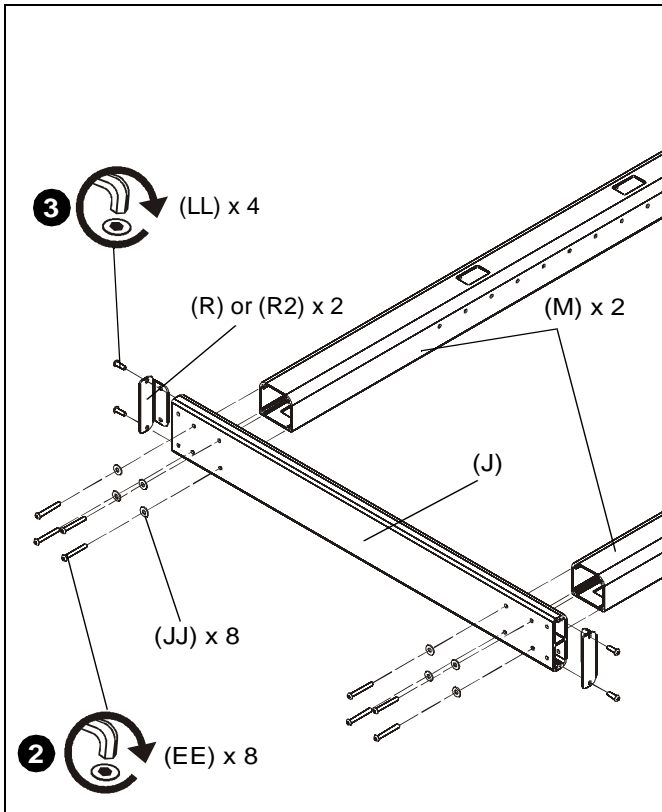

Figure 1
1. Lay two cart array columns (M) down on a flat surface.
2. Use eight 5/16-18 x 2 1/2" button head cap screws (EE) and eight 5/16" washers (JJ) to connect cross bar (J) to columns (M). (See Figure 1)
3. Use four 5/16-18 x 1/2" button head cap screws (LL) to attach two end brackets (R) or (R2) to cross bar (J). (See Figure 1)